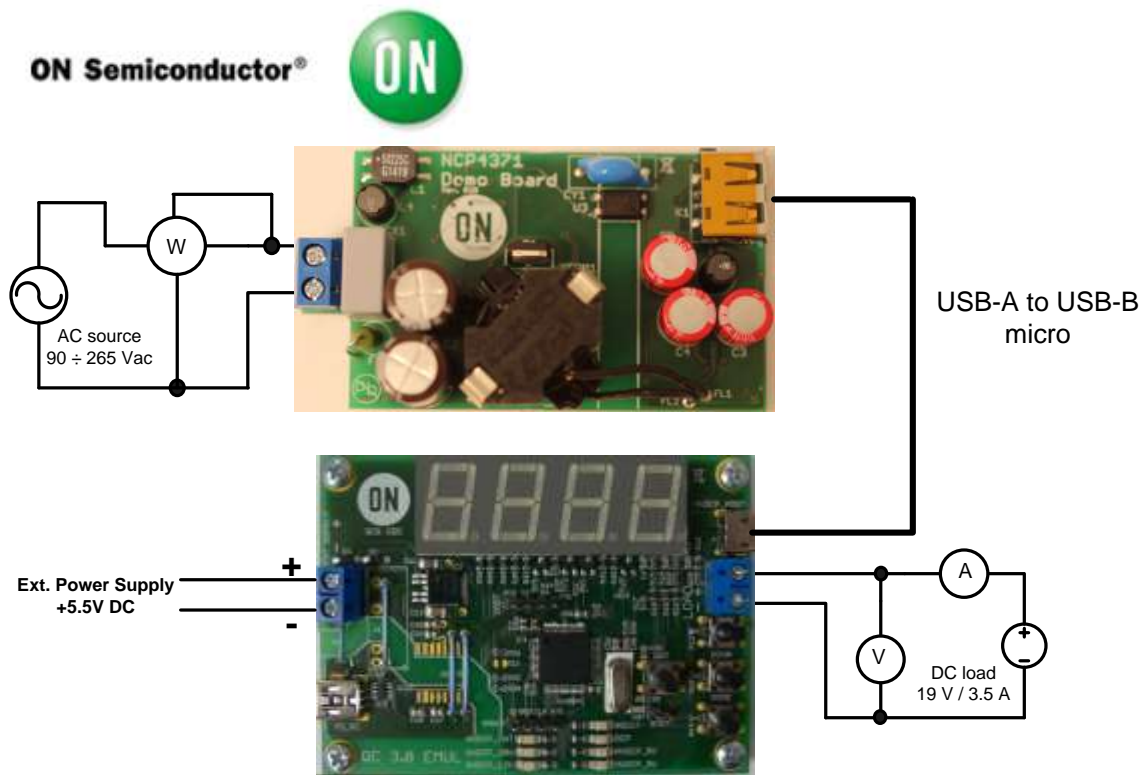

Figure 1: Test Setup
1. Connect the test setup as shown in Figure 1.